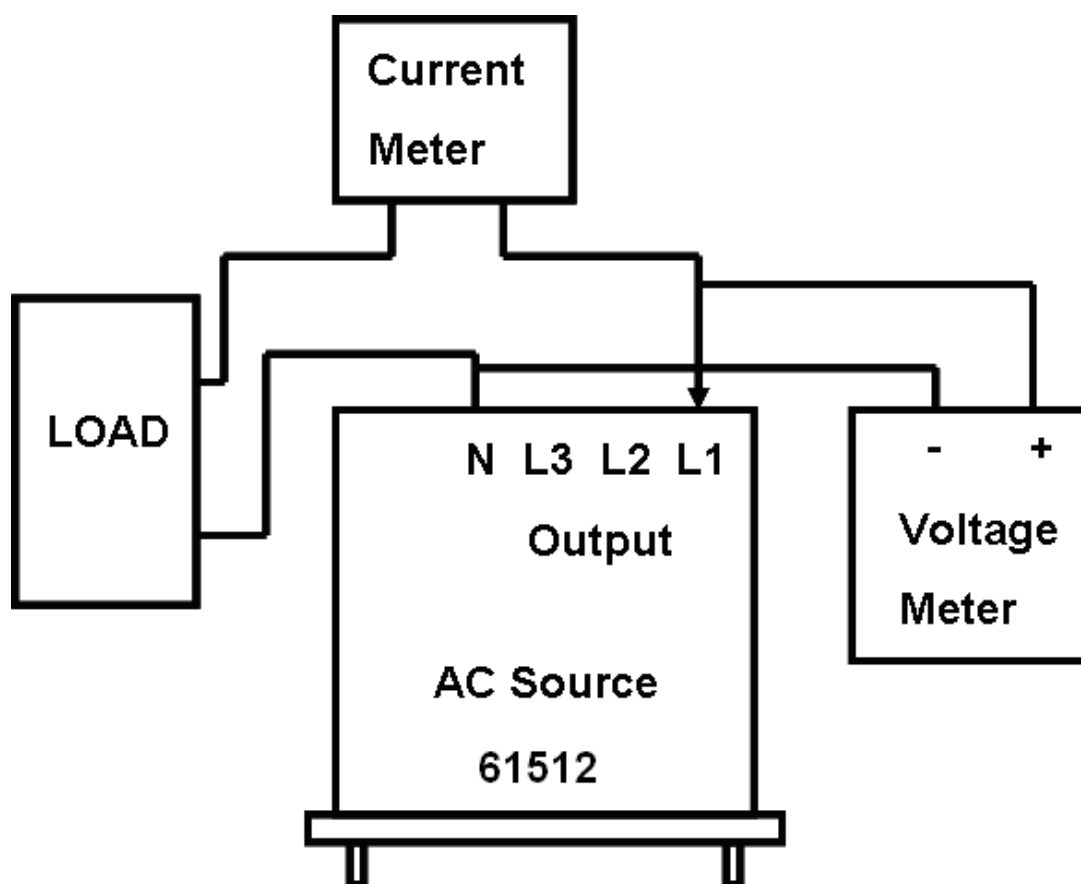

Figure 4-1
The AC Source has a simple procedure built in to calibrate the output and measure the accuracy without opening the chassis. Users simply need to follow the procedure step by step for operation. A voltage meter, current meter and an adequate load with a +5V DC power supply are required to perform the calibration. For the connections of these instruments please refer to Figure 4-1. There are 3 items required for calibration: output voltage, output current and external reference. However, they don't need to be calibrated at the same time. Select one of them for calibration is needed.
1. The Vdc offset can be positive or negative. Connect the positive terminal of DVM to the AC Source's Line output and the negative terminal to the AC Source's Neutral output as shown in Figure 4-1.